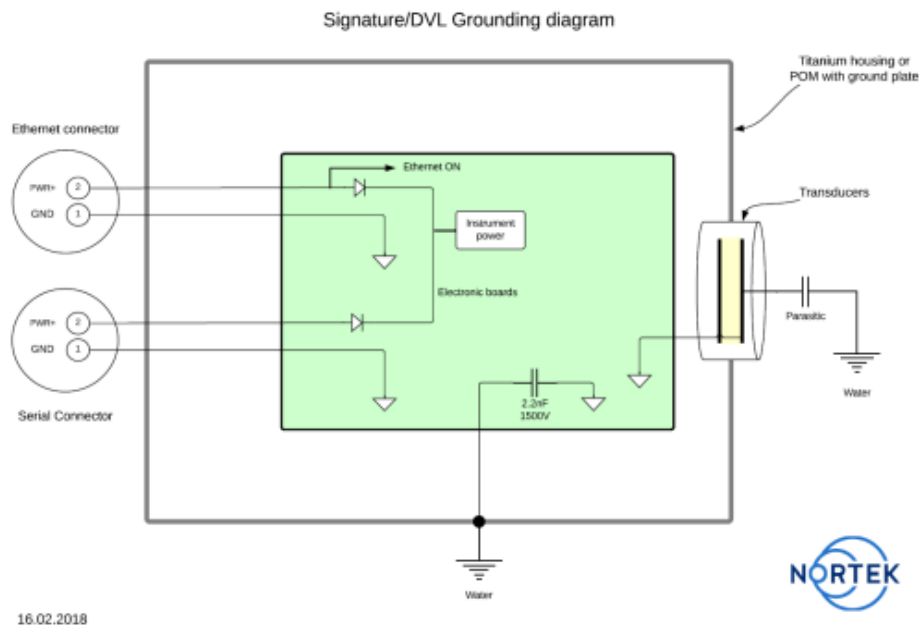

Figure 1: DVL Grounding Diagram
- For OEM versions this must be done via the grounding cable on the wiring harness. The cable should be connected to a part of the vehicle's frame that has a good electrical connection to seawater. Because of corrosion issues, this connection is normally made through a capacitor (see Figure 1). In production units, the capacitor is built into the housing's grounding system.